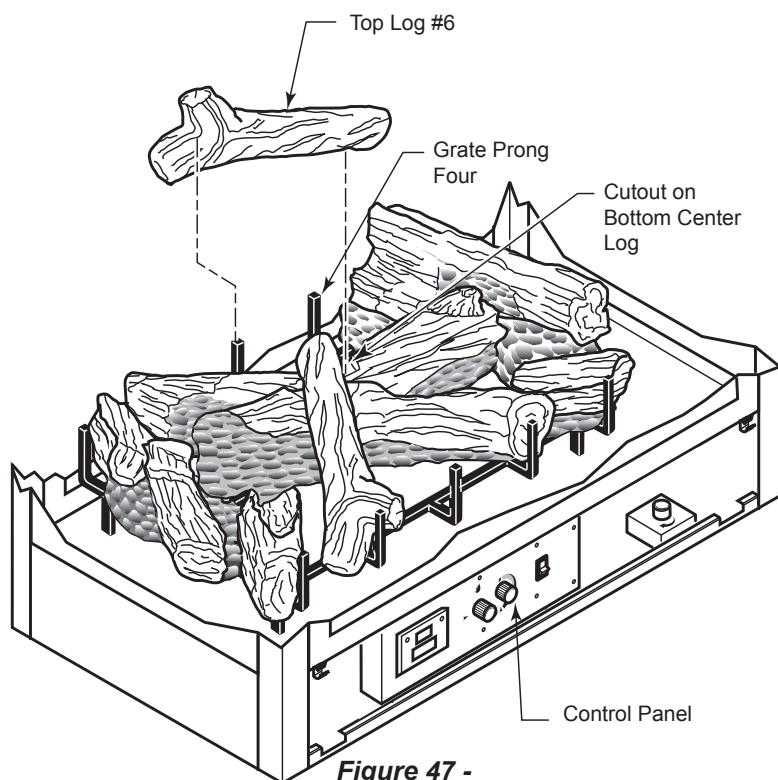

**Figure 45 -
6. Line up pin holes on bottom front log (#4) with pins on grate. *Figure 45*